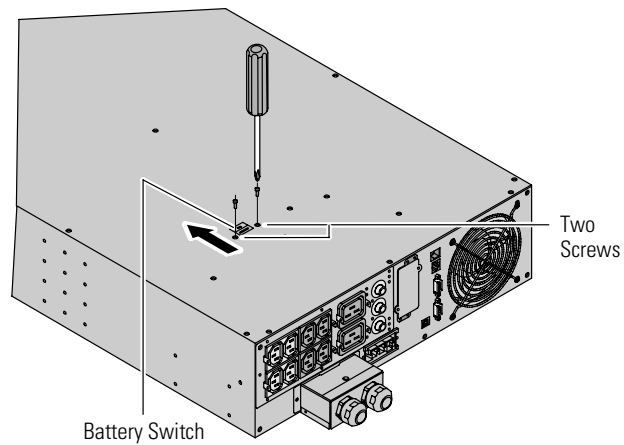

Figure 2. Removing the Battery Switch Screws
2. Remove the two screws from the battery switch (see Figure 2).